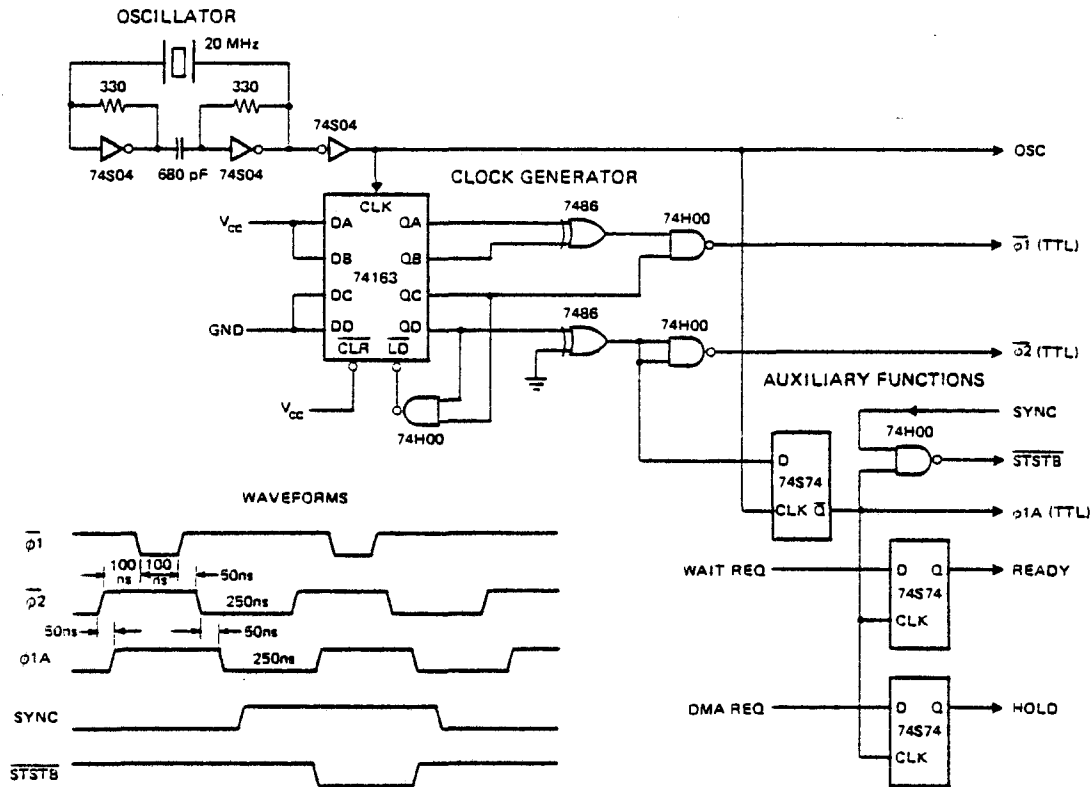

Figure 3-3. 8080 Clock Generator
The oscillator provides a 20 MHz signal to the input of a four (4) bit, presetable, synchronous, binary counter. By presetting the counter as shown in figure 3-3 and clocking it with the 20 MHz signal, a simple decoding of the counters outputs using standard TTL gates, provides proper timing for the two (2) 8080 clock inputs.
The Clock Generator diagram also shows how to generate an advanced timing signal ( $\phi 1A$ ) that is handy to use in clocking "D" type flipflops to synchronize external requests. It can also be used to generate a strobe ( $\overline{STSTB}$ ) that is the latching signal for the status information which is available on the Data Bus at the beginning of each machine cycle. A simple gating of the SYNC signal from the 8080 and the advanced ( $\phi 1A$ ) will do the job. See Figure 3-3.